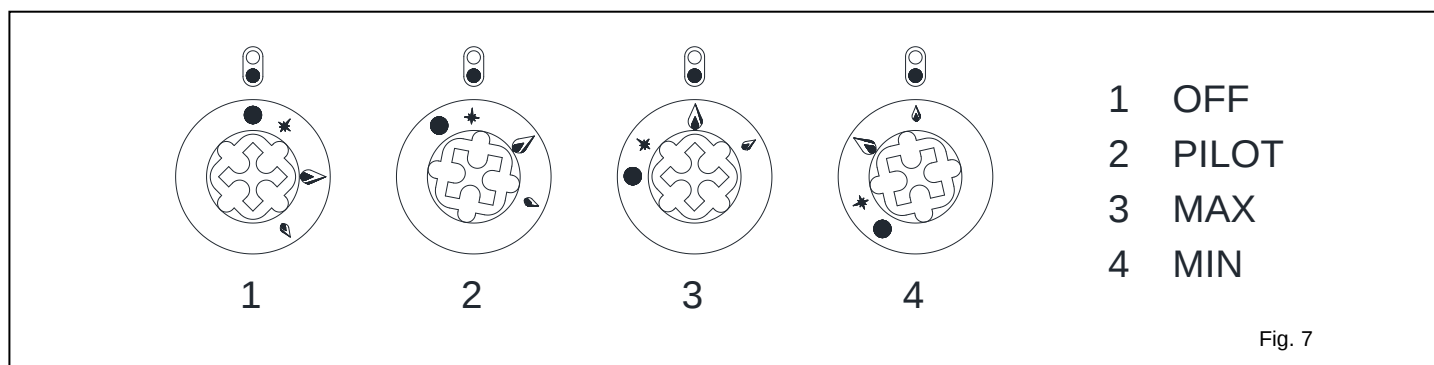

Fig. 7
6.1 Pilot ignition (Fig. 7)
6.4 Lighting the main burner (Fig. 7)